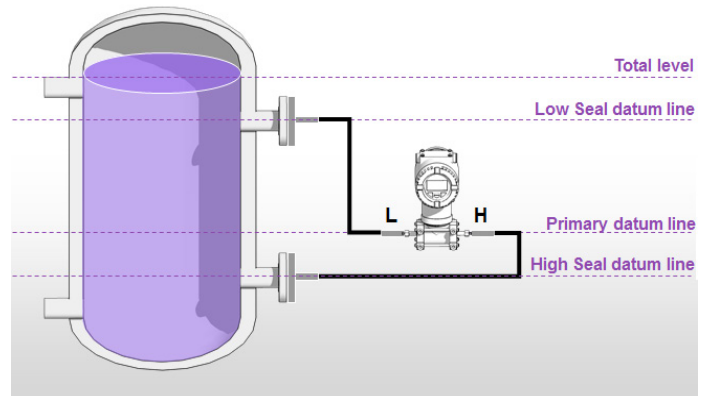

Figure 12: Density or specific gravity measurement
3. Clamp the seal between two flanges (see Figure 12). Be sure that the gasket is properly positioned between the process flange and the seal element gasket surface.